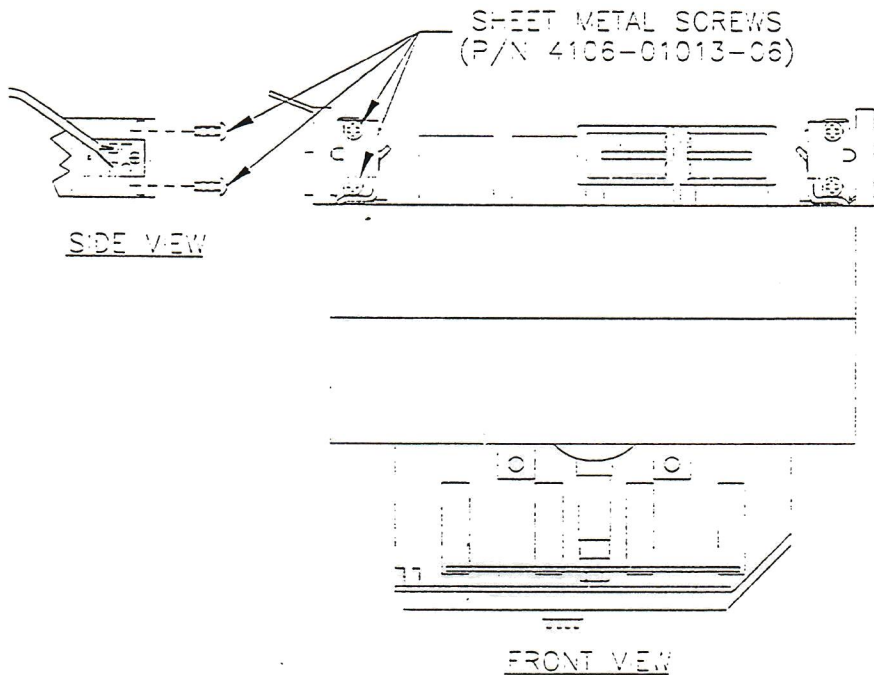

FIGURE 1
1. Remove the two (2) SHEET METAL SCREWS (P/N 4106-01013-06) that attach the OPTO TRANSISTOR ASSEMBLY (A-16909), on the left side of the MINI PLAYFIELD ASSEMBLY. (See Fig.1)